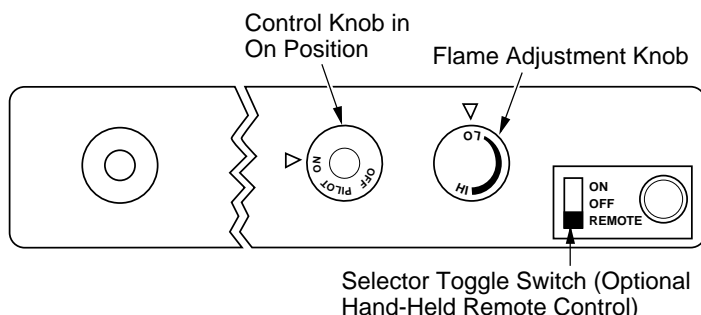

Figure 32 - Setting the Selector Switch, Control Knob, and Flame Adjustment Knob for Remote Operation
1. After lighting, let pilot flame burn for about one minute. Turn control knob to ON position. Adjust flame adjustment knob anywhere between HI and LO. Slide the selector switch to the REMOTE position (see Figure 32). **Note:** The burner may light if hand-held remote was on when selector switch was last turned off. You can now turn the burner on and off with the hand-held remote control unit.